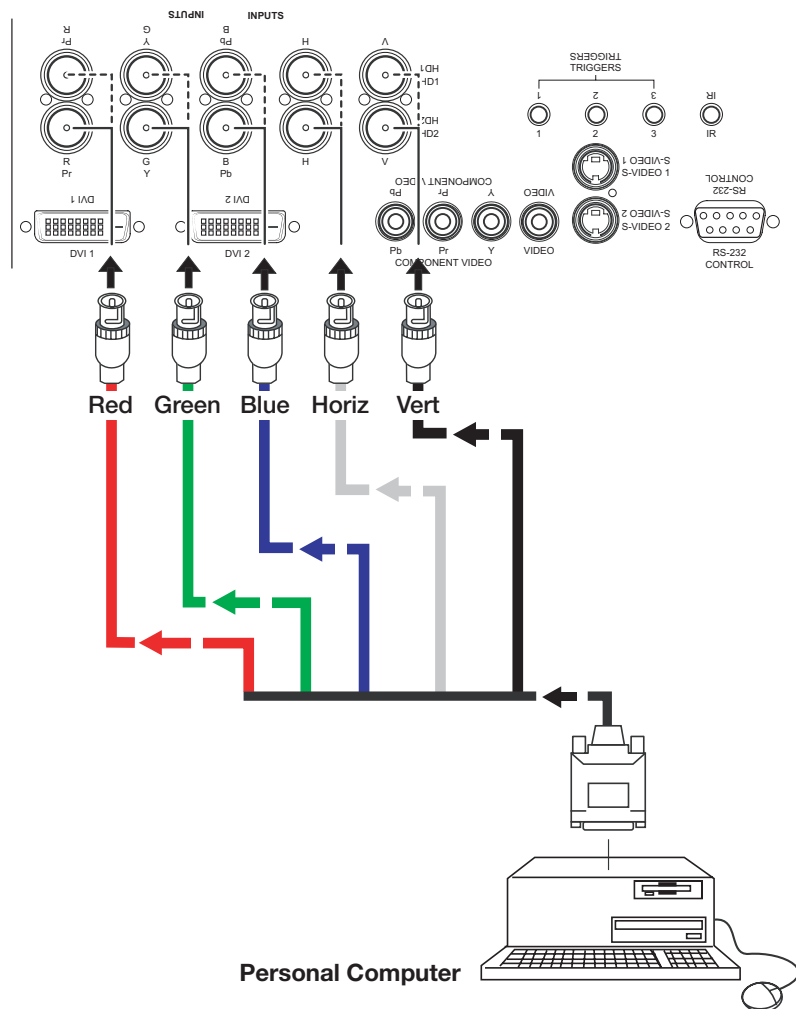

**Figure 3-8. Analog RGB Connections**
**Analog (Computer) RGB Connections:** See Figure 3-8.